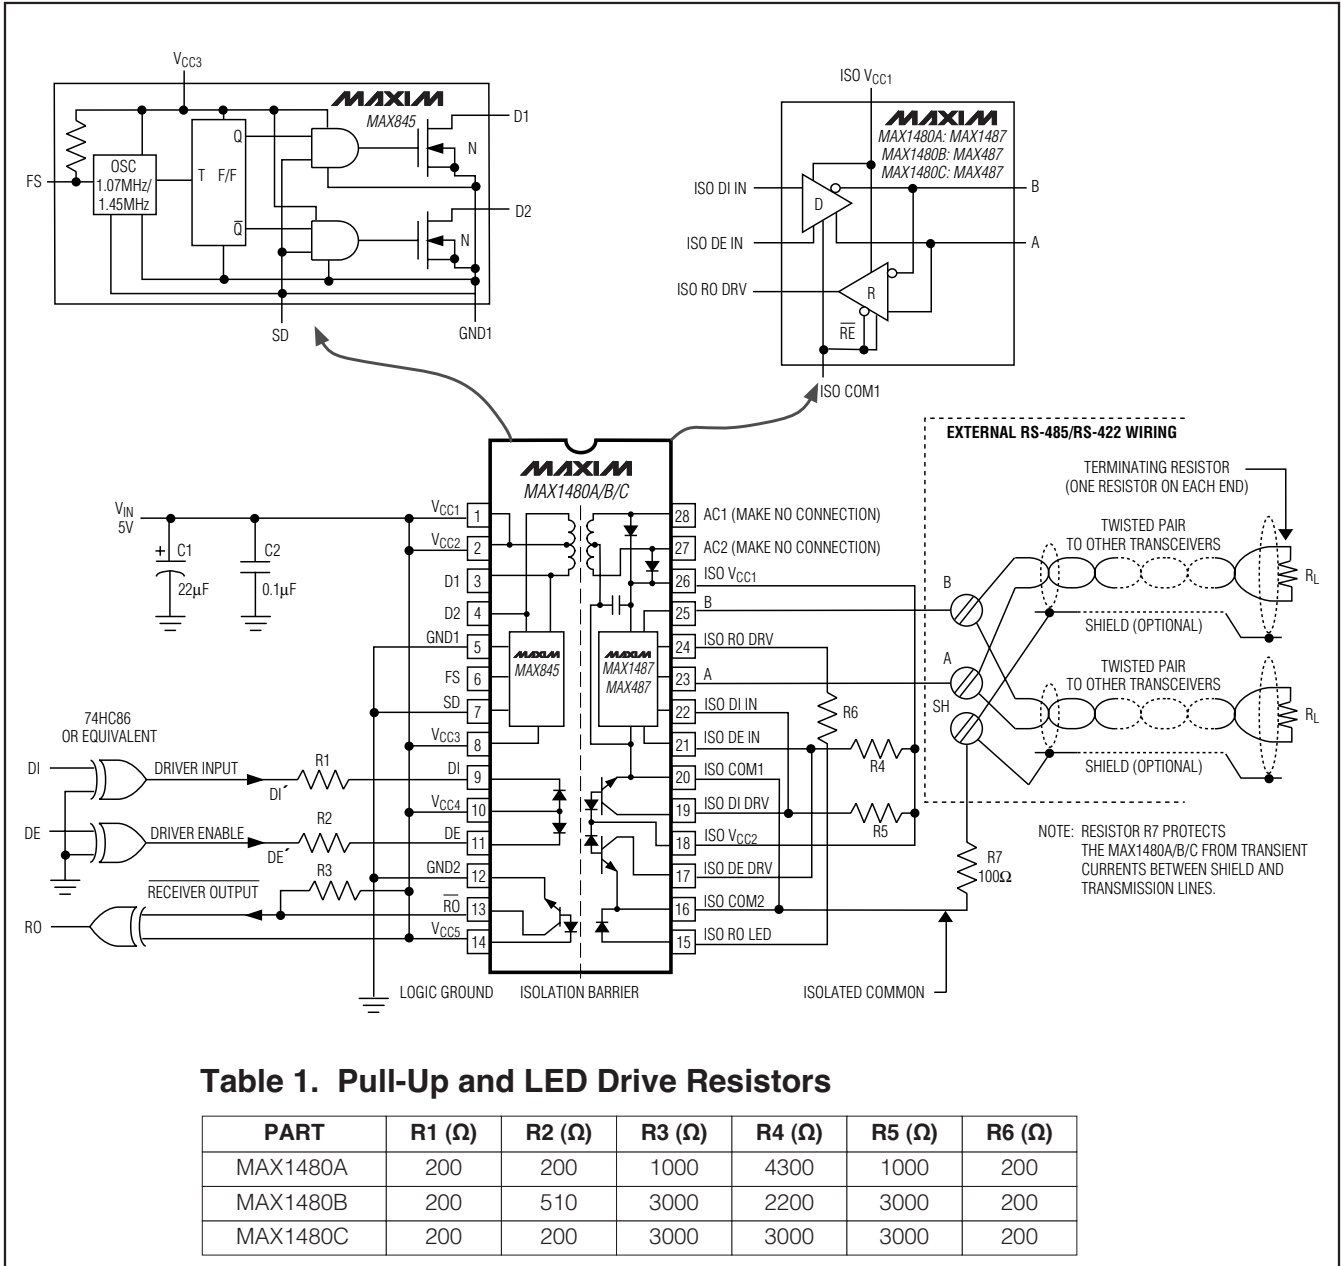
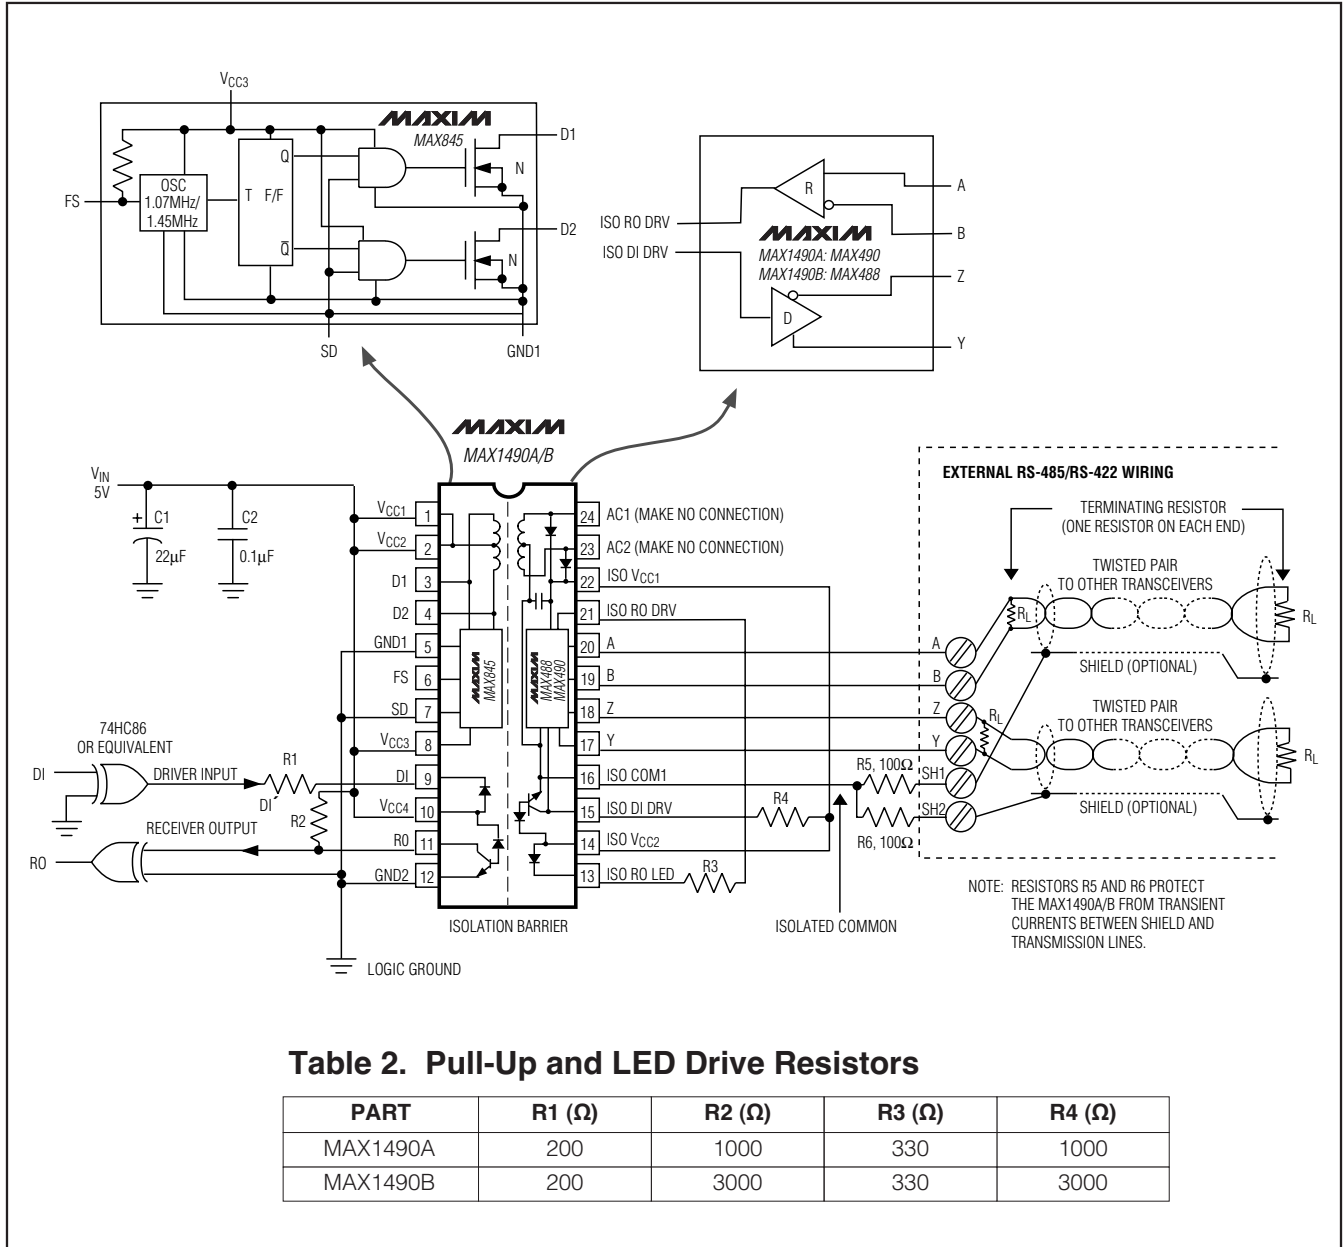

Figure 1. MAX1480A/MAX1480B/MAX1480C Detailed Block Diagram and Typical Application Circuit
Figure 2. MAX1490A/MAX1490B Detailed Block Diagram and Typical Application Circuit
**Note 2:** For DE' and DI' pin descriptions, see *Detailed Block Diagram and Typical Application Circuit* (Figure 1 for MAX1480A/MAX1480B/MAX1480C, Figure 2 for MAX1490A/MAX1490B).
**Note:** For DE+ and DI+ pin descriptions, see *Detailed Block Diagram and Typical Application Circuit* (Figure 1 for MAX1480A/B/C, Figure 2 for MAX1490A/B).
The MAX1480A/MAX1480B/MAX1480C/MAX1490A/MAX1490B are complete, electrically isolated, RS-485/RS-422 data-communications interface solutions. Transceivers, optocouplers, a power driver, and a transformer in one standard 28-pin DIP package (24-pin for the MAX1490A/B) provide a complete interface. Signals and power are internally transported across the isolation barrier (Figures 1, 2). Power is transferred from the logic side (nonisolated side) to the isolated side of the barrier through a center-tapped transformer. Signals cross the barrier through high-speed optocouplers. A single +5V supply on the logic side powers both sides of the interface. The MAX1480A/B/C offer half-duplex communications while the MAX1490A/B feature full-duplex communication. The functional input/output relationships are shown in Tables 3–6.
\* For DE' and DI' pin descriptions, see Detailed Block Diagram and Typical Application Circuit (Figure 1 for MAX1480A/B/C, Figure 2 for MAX1490A/B).
The MAX1480A/MAX1480B/MAX1480C/MAX1490A/MAX1490B are specified and characterized using the resistor values shown in Table 1 of Figure 1 and Table 2 of Figure 2. Altering the recommended values can degrade performance.
The isolated common may be completely floating with respect to the logic ground and the effective network ground. The receiver input resistors will cause the isolated common voltage to go to the mean voltage of the receiver inputs. If using shielded cable, connect the isolated common to the shield through a 100Ω resistor. In the case of the MAX1490, each shield should have its own 100Ω resistor (Figures 1, 2, 13, and 14).